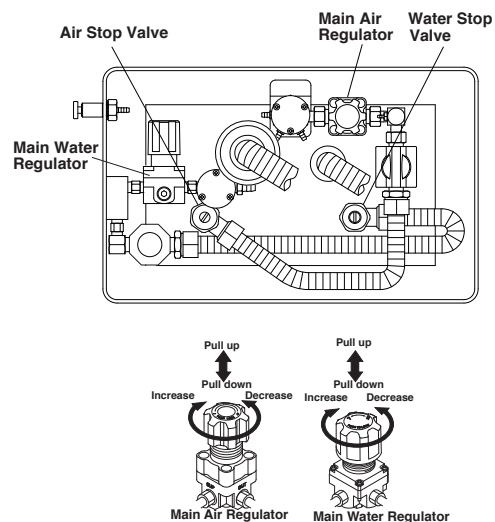

Fig.6-1 Main Air and Main Water Pressure Adjustment
(1) Water and Air Stop Valves (Fig.6-1)
(2) Main Air Pressure (Fig.6-1)
(3) Main Water Pressure (Fig.6-1)